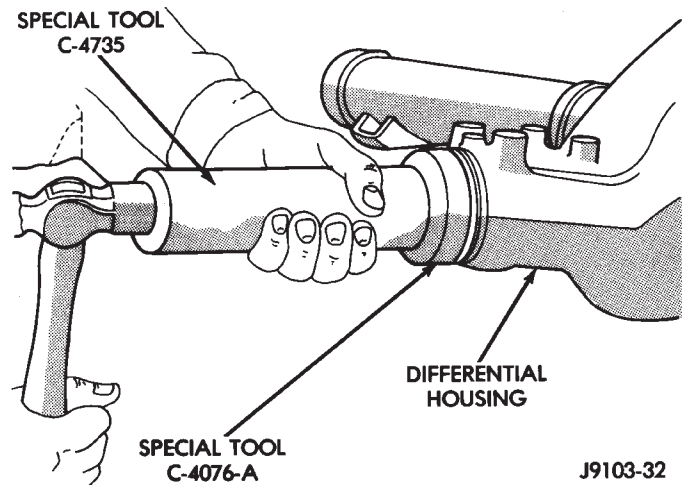

Fig. 14 8 1/4 Axle Pinion Seal Installation
(4) Apply a light coating of gear lubricant on the lip of pinion seal.
(5) Install the new pinion shaft seal with Installer C-4076-B and Handle C-4735-1 (Fig. 14).